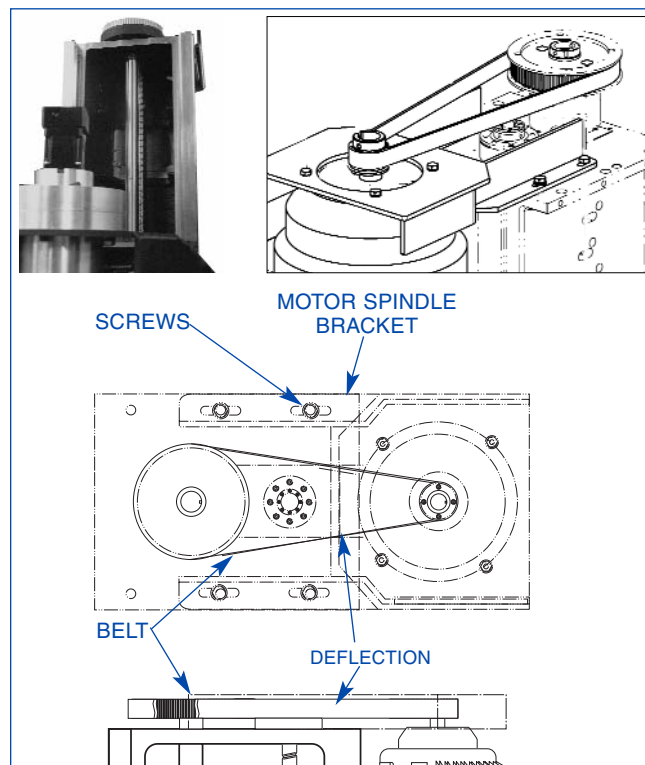

FIGURE 4-5, Upper Spindle Belt
2. Loosen four (4) Screws holding Spindle Motor Bracket to deck (*see Figure 4-5*).
2. Loosen four (4) Screws holding Spindle Motor Bracket to deck. Then loosen tension Setscrew in Tension Rod (*refer to Figure 4-5*).